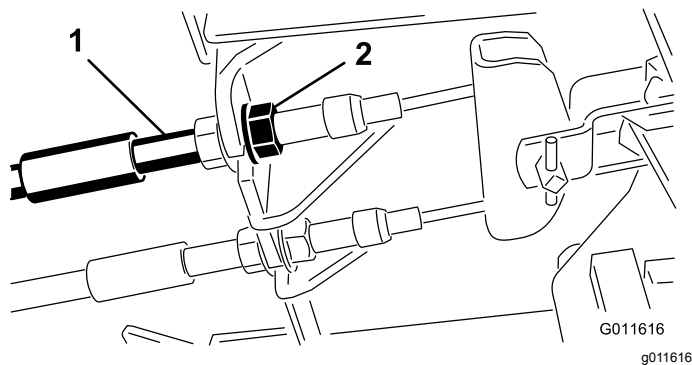

Figure 61
1. To reduce free travel of the brake pedals, tighten the brakes by loosening the front nut on the threaded end of the brake cable (Figure 61).